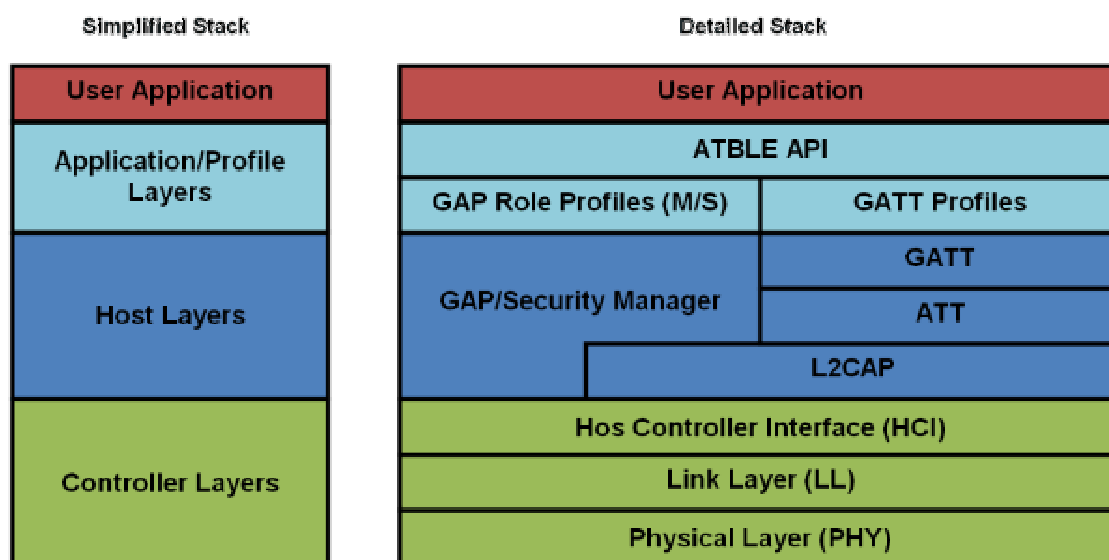

Figure 4.1: BTLE Stack
BT and BTLE stacks look quite similar regarding the basic structure and the usage of profiles, consisting of 3 main general layers; controller, host and application layers, as shown in figure 4.1. However, some new terms are defined for BTLE that do not exist for BT, while some got their names changed but still have the same functionality. Normally, BTLE modules on the market should support both the controller layers, which have the same names like in BT; PHY, LL and HCI, in addition to the host layers; L2CAP, ATT, GATT and SM. Unlike BT, security setting like authentications, pairing, encryption, etc. have been moved to a separate protocol in BTLE, which is the Security Management (SM). In traditional BT, all profiles supported on a BT device are listed in a special protocol called SDP (Service Discovery Protocol). Similarly, ATT/GATT protocols play the same role, except that each profile is sub-categorized into services, and each service has its characteristics. For example, the Proximity profile includes services like Device Information, Battery monitoring, Immediate alerting, Link Loss, Tx power, etc [5]. Some of these services are commonly used in several profiles. Each profile specifies which services are mandatory and which are optional.